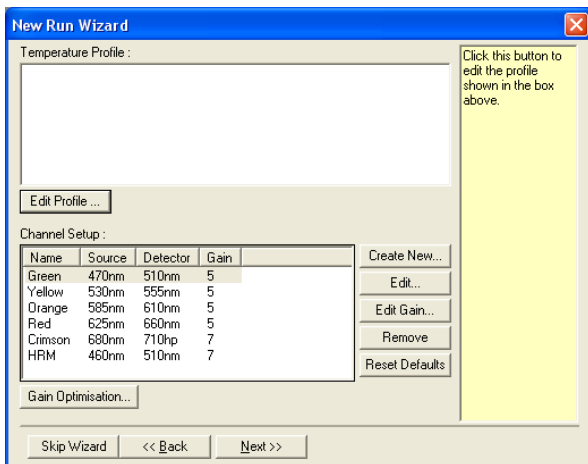

Figure 3. "Edit Profile" in the "New Run Wizard."
5. Click **Edit Profile** (Figure 3). Check the run parameters according to the following steps.